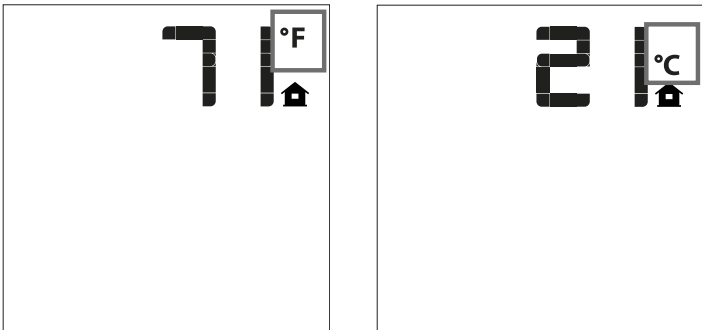

Figure 3 - Remote Control Display in Fahrenheit and Celsius
Install the 4 AA batteries into the receiver battery bay. Note the polarity of the battery and insert into the battery bay as indicated on the Battery cover (+/-). Place the 3 position slider switch in the "Remote" position. (fig. 3) Using the end of a paper clip, or other similar object, insert the end of the paper clip into the hole marked "PRG" on the Receiver front cover (fig 3). The Receiver will "beep" three (3) times to indicate that it is ready to synchronize with a Transmitter. Install the 3 AAA type batteries in the Transmitter battery bay, located on the base of the Transmitter. With the batteries already installed in the Transmitter, push the On button. The Receiver will "beep" four times to indicate the Transmitter's command is accepted and sets to the particular code of that Transmitter. The system is now initialized.
With the system in the "OFF" position, press the Thermostat Key and the Mode Key at the same time. Look at the LCD screen on the Transmitter to verify that a C or F is visible to the right of the Room Temperature display. (Fig. 3)